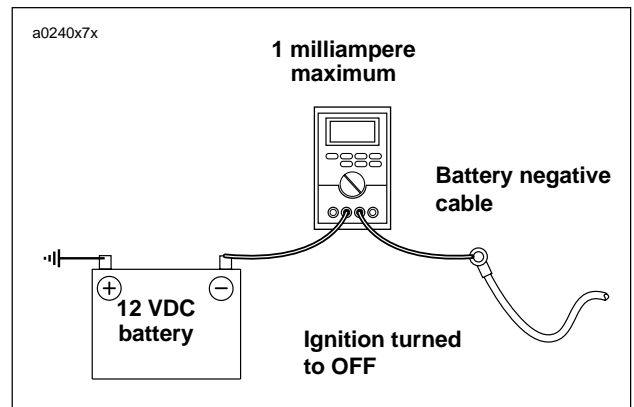

Figure 7-46. Milliampere Draw Test
4. See Figure 7-46. Remove ground lead. Insert lead into the remaining stator socket.